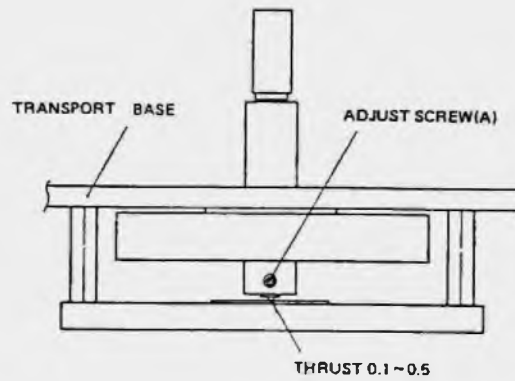

Fig. 6.9
CAUTION: Whenever the capstan assembly is replaced, loosen screw (A) and adjust thrust play to 0.1 ~ 0.5mm (Fig. 6.9)